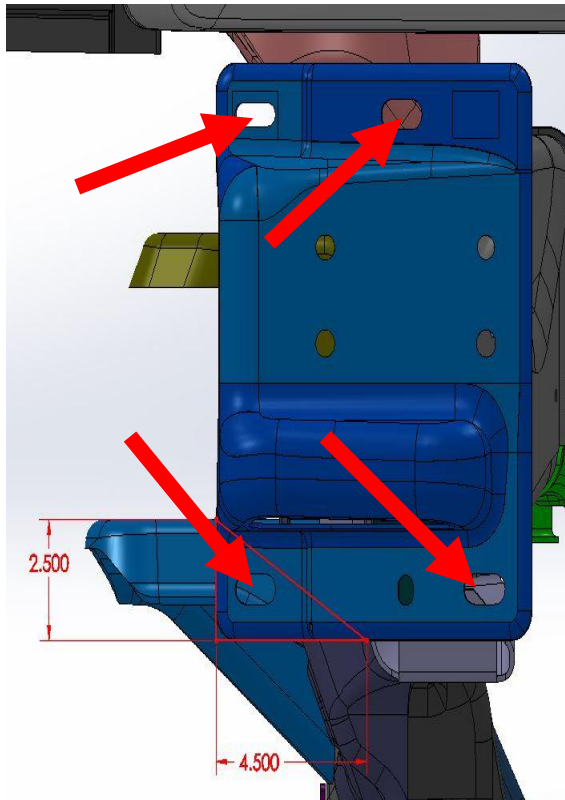

Figure 2 – Passenger side bracket
- C. With the bumper supported, remove the four nuts per side attaching the bumper to the bumper brackets. Use caution to not damage the intercooler or radiator fins while lifting the assembly. (See figure 2, arrows for locations)*